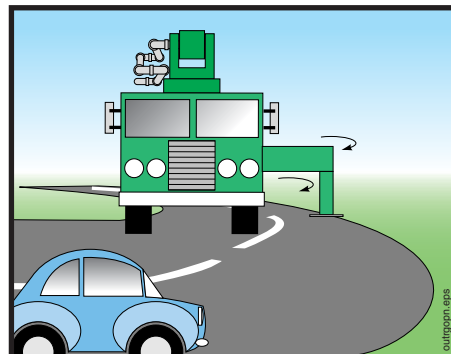

Figure 5
- 3.11 **⚠ WARNING** Be sure that outriggers are pinned and locked before traveling. If the locking device is damaged or worn, it should be repaired immediately and the unit **must not be driven until the outriggers can be positively locked** against accidental opening (see Figure 5).